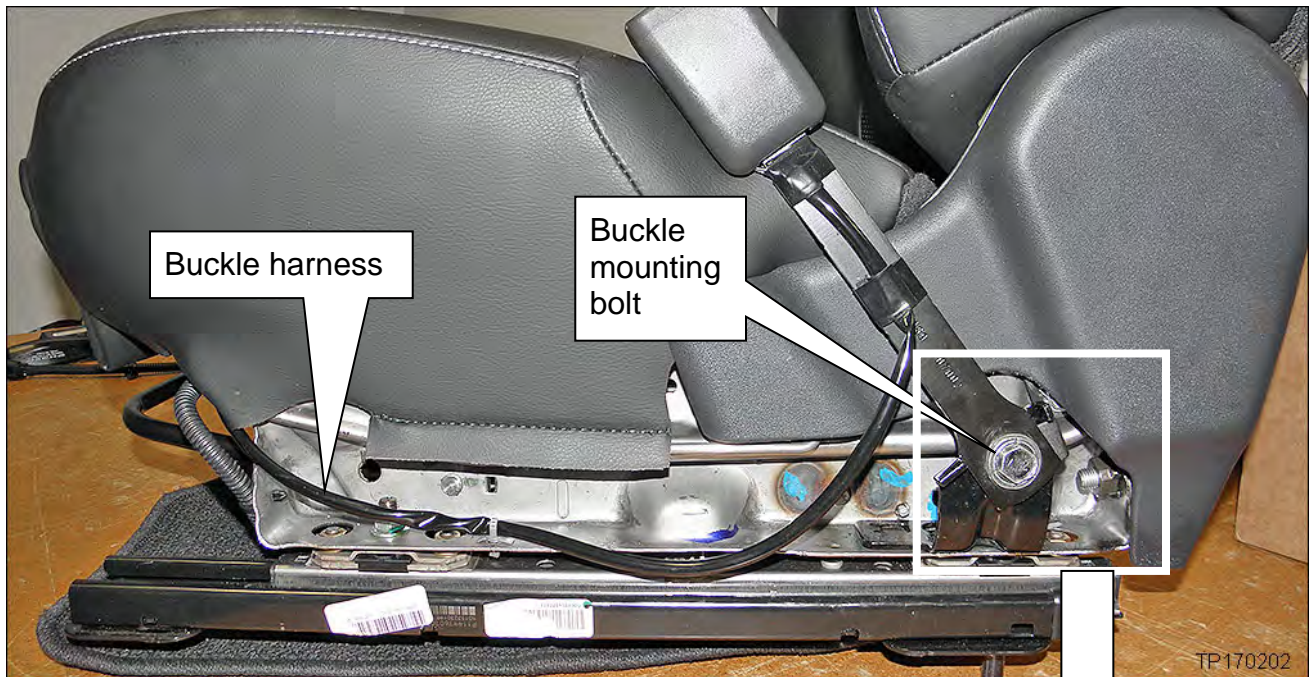

Figure 13
19. Tape the harness as shown in Figure 13.
20. Remove the old seat belt buckle and install the **new** one (see Figure 13).